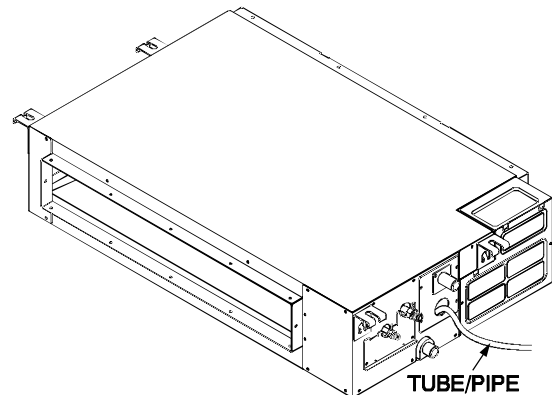

Fig. 16 – Tube/Pipe Insert
2. Using a piece of tubing or pipe, fill the drain pump reservoir with 70 oz. of water (see Fig. 16).